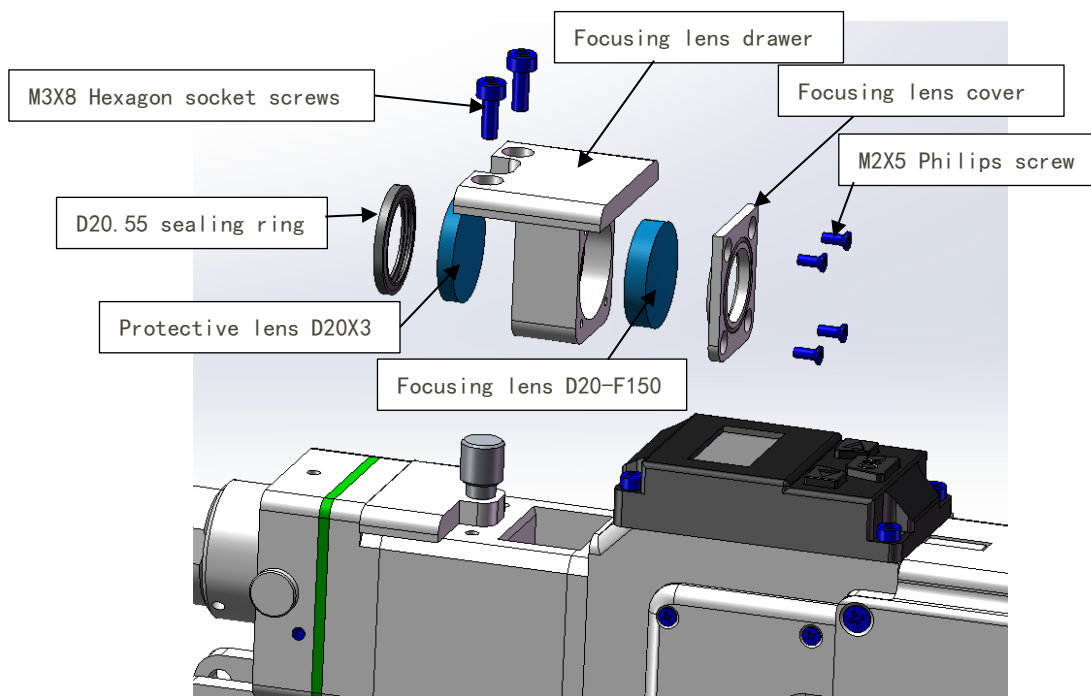

Figure 11 Split diagram of upper protective glass and focusing lens on HW970
- (1) As shown in Figure 11, loosen two M3X8 Hexagon socket screws, pinch both sides of the drawer-type lens holder and slowly pull out the focusing lens drawer;
- (2) Remove focusing lens: use a small cross screw to loosen four M2X5 Phillips screws, remove the focusing lens cover; take out the focusing lens D20-F150
- (3) Remove the protective glass: carefully remove the D20.55 sealing ring, and take out the protective glass D20X3.
- (4) Install the cleaned (or replaced) lens into the focus lens drawer
- (5) Reinstall the focusing lens cover and D20.55 sealing ring.
- (6) Reinsert the focusing lens drawer back into the welding head, and tighten the locking screw.